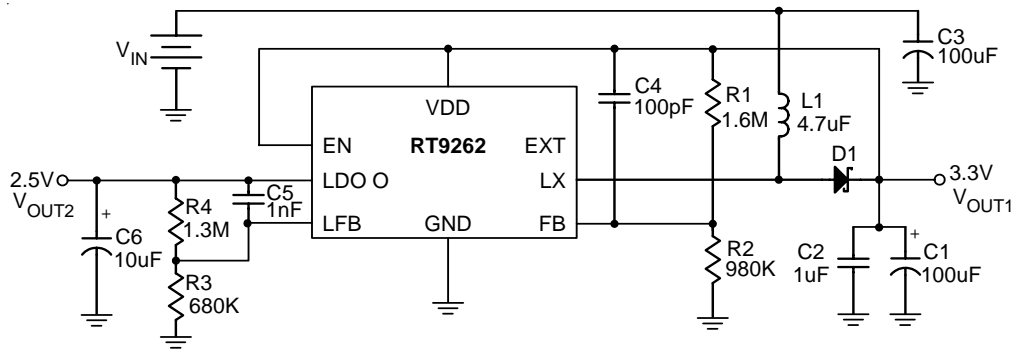
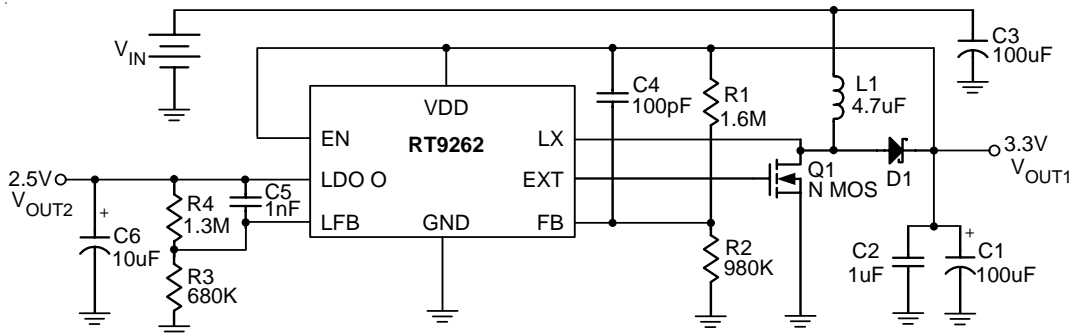

Figure 1. RT9262 Typical Application for Portable Instruments below 400mA
Figure 4. 0.4A ~ 2A Output Current Application
Referring to application circuits Figure 1 to Figure 5 the output voltage of the switching regulator ( $V_{OUT1}$ ) can be set with Equation (1).
Referring to application circuits Figure 1 to Figure 5. The selection of R1, R2, R3, and R4 based on the trade-off between quiescent current consumption and interference immunity is stated below:
- Follow Equation (1) and Equation (2).
- A proper value of feed forward capacitor parallel with R1 (or R4) on Figure 1 to Figure 5 can improve the noise immunity of the feedback loops, especially in an improper layout. An empirical suggestion is around 100pF ~ 1nF for feedback resistors of MW, and 10nF~0.1μF for feedback resistors of tens to hundreds kΩ.
- The following diagram is an example of 2-layer board layout for application circuits Figure 1 to Figure 4.